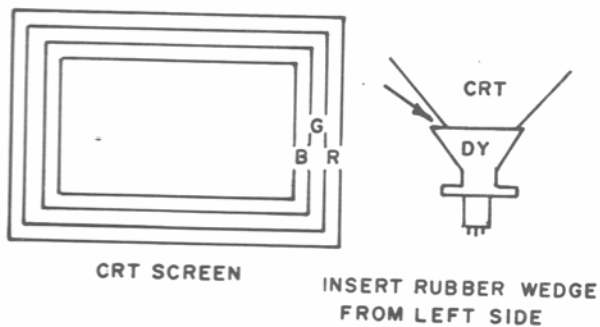

FIGURE 9a
2. Tilting the angle of the yoke sideways adjusts the parallel convergence of both horizontal and vertical lines at the edges of the screen (Figures 9a and 9b).